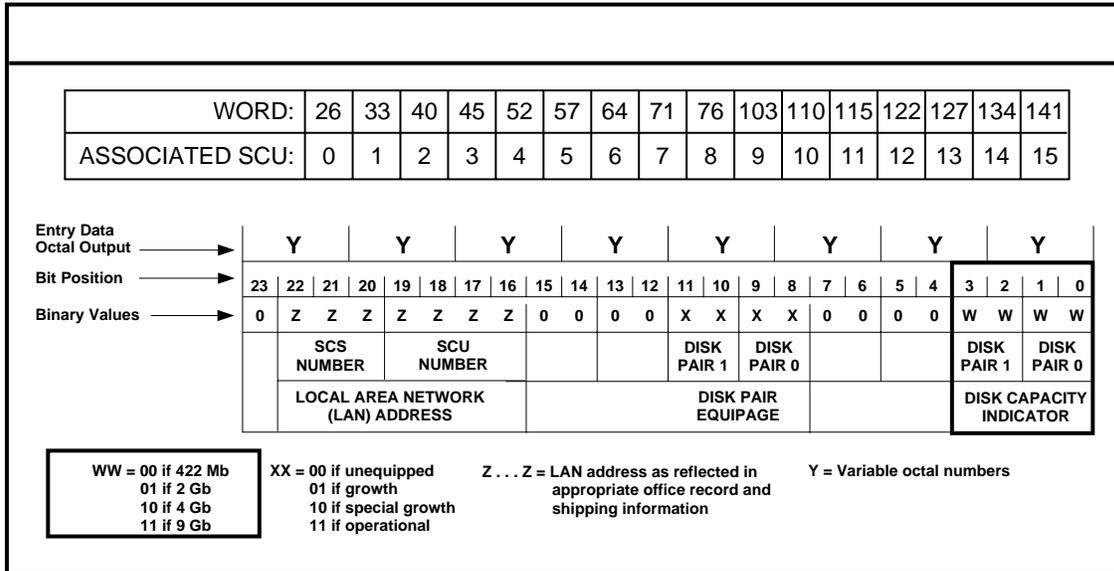
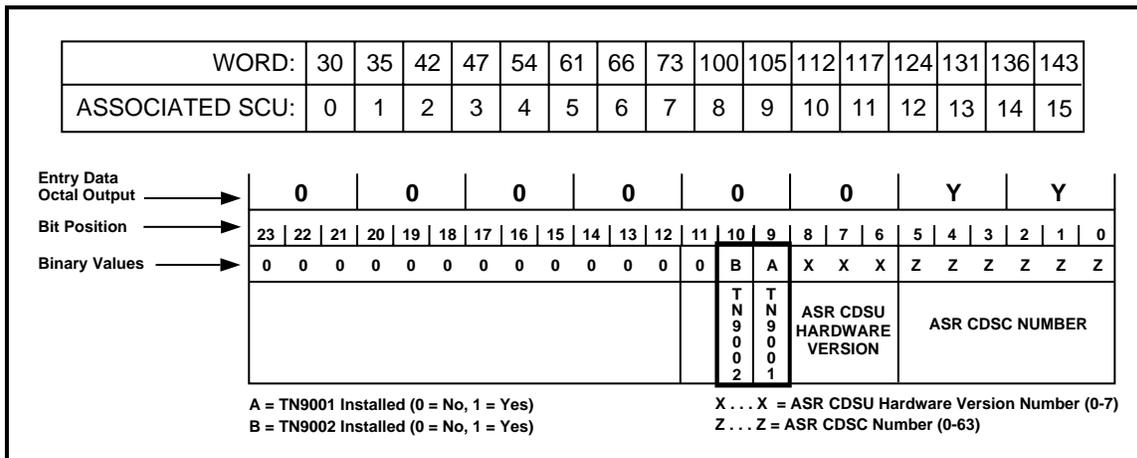

Figure 1. Verify SCU Disk Capacity in SCS Unit Type Translator
Figure 2. Verify SCU Hardware Version in SCS Unit Type Translator
The above responses are followed by a complete printout of the Service Circuit System (SCS) Unit Type entry data. Use this printout and Figure 1 to determine if the SCU data (disk pair capacity) was properly entered. Use this printout and Figure 2 to determine if the SCU hardware version was properly entered.
Figure 1 is a typical IXL-001 procedure and is titled *Task Index List*. It is an alphabetical listing of the jobs that you may have to do. To use an IXL-001 procedure, just find the job you need to do in the **FIND YOUR JOB IN THE LIST BELOW** column. Next, follow the dotted line to the procedure number and begin the task. For example, suppose you are given the job of doing a system test. On the IXL-001 procedure, as shown in Figure 1, notice that it is listed in the **THEN GO TO** column as NTP-016. It could have been any other 3-digit number.
Figure 2 is an example of an NTP (Non-Trouble Procedure). Each NTP provides specific instructions for doing a job. It consists of numbered items (or steps) listed in the order that you must do them to complete your job. To use this procedure, you must start with item 1 in the **DO THE ITEMS BELOW IN ORDER LISTED** column and continue until all items have been done. When you get to an item that you do not know how to do, look for the procedure number for that item under the **FOR DETAILS, GO TO** column. This is the number of the procedure that will give you detailed, step-by-step instructions to do that item. Note that item 2 in Figure 2 uses lettered (A, B) entries. This means that there are alternate ways of doing item 2 depending on equipment options or equipment conditions. You do only the one that fits your equipment options or equipment conditions.
For example, suppose you are doing a System Test. The IXL-001 as shown in Figure 1, has directed you to NTP-016 as shown in Figure 2, and you are on item 8 "Mount Tape" in the **DO THE ITEMS BELOW IN ORDER LISTED** column. Mount the tape if you know how. If you do not know how to mount the tape, go to the procedure number listed in the **FOR DETAILS, GO TO** column for the detailed, step-by-step instructions. In this case, it happens to be DLP-500. In either case, you must continue with the next item listed in NTP-016 until you complete the job.